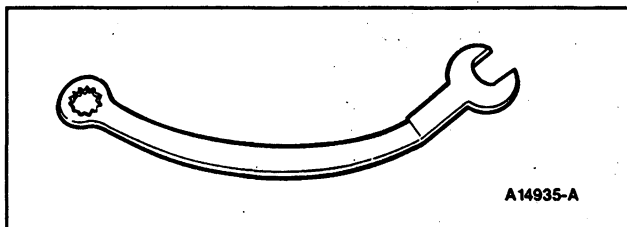

Figure 2: T83T-9000-B Injection Pump Mounting Wrench
2. Break torque (keeping nuts snug) on three nuts attaching injection pump to pump mounting adapter using Injection Pump Mounting Wrench T83T-9000-B (Figure 2).
9. Turn engine off. Note timing mark alignment. Remove fast idle bracket and solenoid from injection pump. Break torque (keeping nuts snug) on nuts attaching injection pump to pump mounting adapter with Injection Pump Mounting Wrench T83T-9000-B (Figure 2).